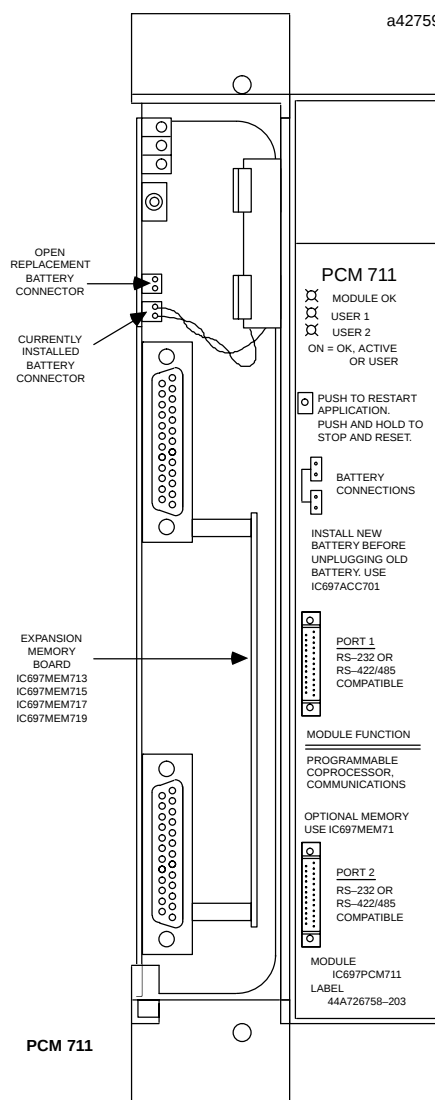

Figure 2. Programmable Coprocessor Module - User Details
- Connect the battery to either of the battery connectors on the module. (See figure 2)
The PCM can operate with or without an expansion memory daughter board. The base memory on the PCM board has up to 95 Kbytes user memory. The expansion memory daughter board permits expansion of program /data memory by 64, 128, 256 or 512 Kbytes. The battery which supports this memory is located on the base board housing as shown in figure 2.
Three Status LEDs are available as shown in Figure 2. The top LED indicates the condition of the module, the bottom two LEDs may be assigned to a configured function.
A lithium battery (IC697ACC701) is installed as shown in figure 2. This battery maintains user memory when power is removed. Be sure to install the new battery before removing the old battery.